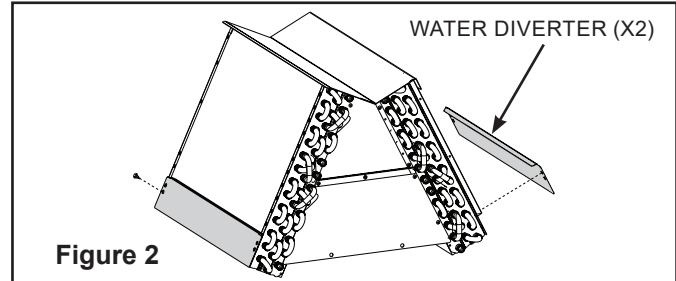

Figure 2
- On model 4TXCD010DS, installing the water diverter baffles is required for water management in downflow installations. Install the two outer water baffles closest to the drain pan using the provided 5/16" hex screws. See Figure 2.